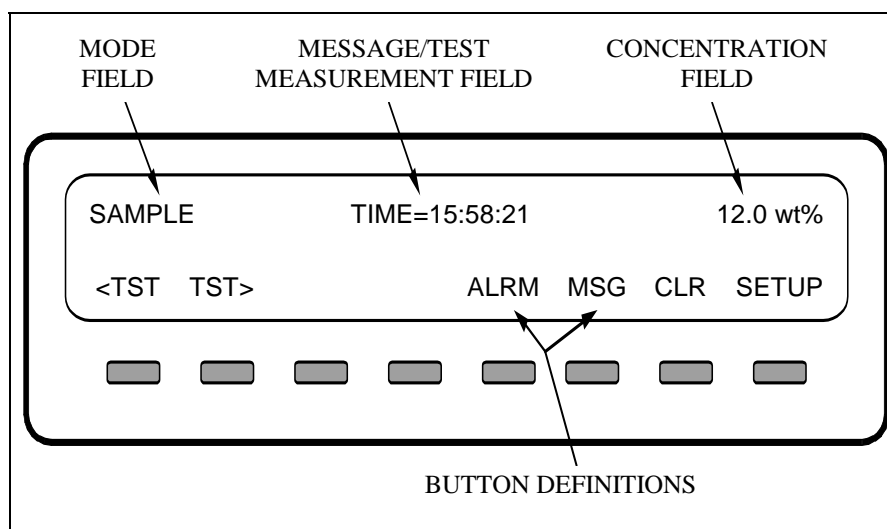

FIGURE 2.1 - MODEL 450H FRONT PANEL
2. Turn on the power by pressing the on/off switch (see Figure 2.1). The display should turn on and green (sample) status LED should be energized. The yellow "fault" light may also be on until the temperatures and voltages are within operating limits. Clear the fault messages.
The display is divided into 4 main "fields": the **Mode** field in the upper left, the **Message/Test Function** field in the top center, the ozone **Concentration** field consisting of the most recent instantaneous ozone value field in the upper right, and the **Menu** field which occupies the entire bottom line of the display. The Menu field is used to define the function of the 8 pushbuttons directly below the display. The buttons are then used for selecting menu items and are also used for entering values such as alarm levels. A typical display is shown in Figure 2.1.